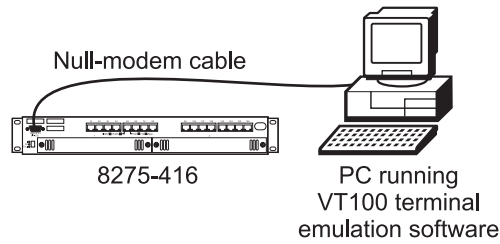

Figure 6. Out-of-Band Connectivity — Locally Attached Terminal
1. Attach one end of a null-modem cable to the EIA 232 port of the 8275-416 as shown in Figure 6 on page 12, and the other end to the COM port of your PC (see "Appendix C. Cable Pinout Diagrams" on page 79).